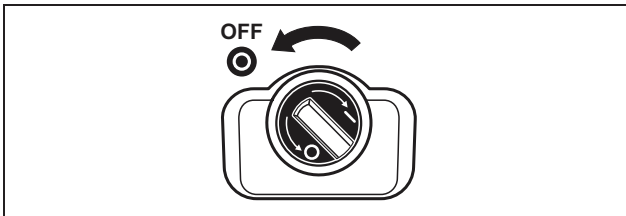

Fig. 81: DC load break switch OFF
- Turn the DC load break switch to OFF (figure 81) or switch off the solar generator via the external DC isolator.